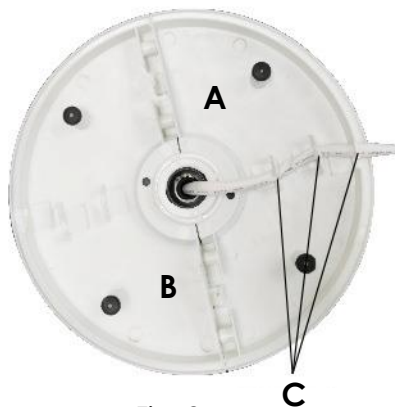

Fig. 2
4. Connect the two halves by pushing the plastic pegs on each half into the corresponding slots on the other half. (Fig.2)
**Important:** Make sure that the power cord passes through the guides (C) on the rear half of the base. (Fig.2)